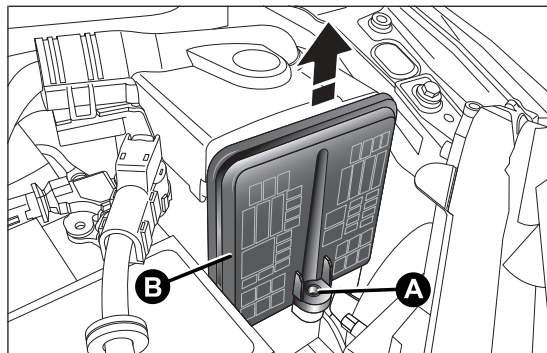
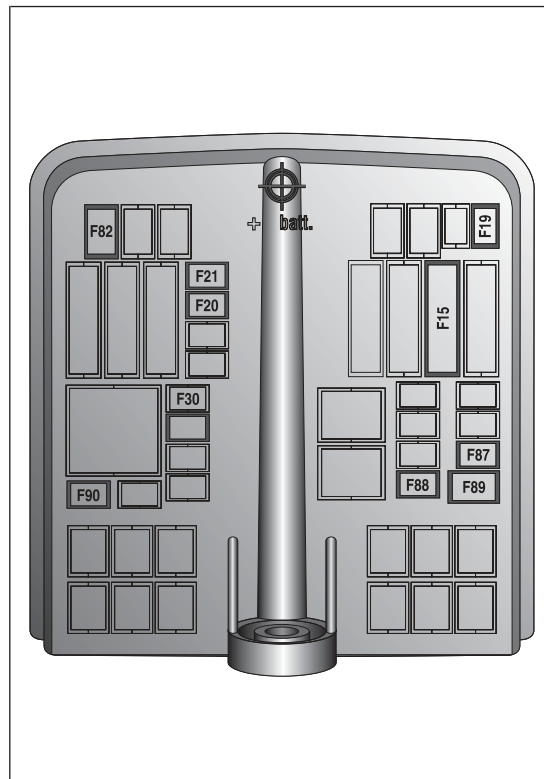

fig. 145
fig. 146
- undo the screw A fig. 145, remove the cover B fig. 145 pulling upwards. The number identifying the electrical component corresponding to each fuse is on the cover fig. 146. After replacing the fuse, make sure you close cover B on the fusebox.